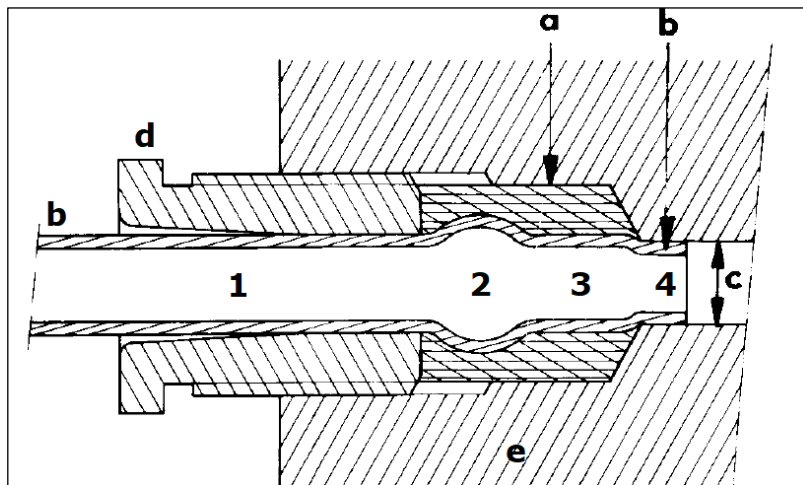
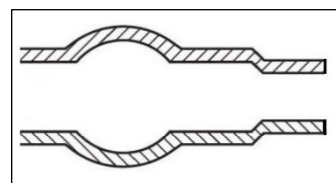
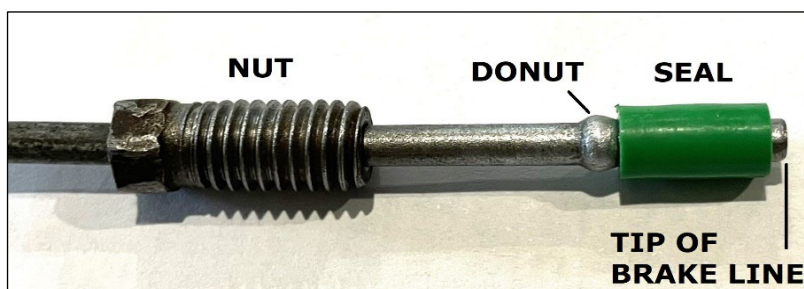
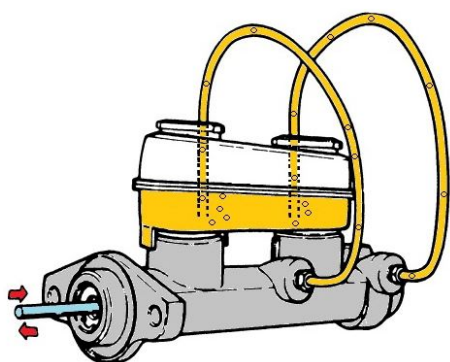

Fig. 2-6
Fig. 2-7
Fig. 2-8
Fig. 2-16 Bench bleeding arrangement
Fig. 2-6 shows the rubber brake line seal 'a', the metal brake line 'b', the fluid opening 'c', the nut 'd' and the fixture 'e'. The brake line diameters at 1 and 3 are identical. The tip of the brake line at 4 is slightly smaller in diameter than at 3, and the brake line shoulder, situated between the diameters '3' and '4', rests against the fixture at the entrance to the opening 'c'. The expanded section at 2 is known as a 'donut' and pushes the seal 'a' against the fixture 'e'. Fig. 2-7 is an enlargement of the end section of the brake line shown in Fig. 2-6. Fig. 2-8 shows a brake line end with a seal fitted, ready to be inserted.
- Fit the seal onto the end of the brake line to a position where about 1mm of the tip of the brake line is exposed as shown in Fig. 2-8.
- Gently insert the brake line and seal into the fixture, ensuring the tip 'b' enters the opening 'c'. You may feel the tip drop into the opening as you slightly move the brake line sideways while pushing it in. Continue gently pushing the brake line in by hand to where it will not enter any further. At this point, the brake line shoulder between diameters 3 and 4 should be contacting the entrance to opening 'c', as depicted in Fig. 2-6, and the seal is positioned correctly.
d. Construct the arrangement portrayed in Fig. 2-16, adapting as necessary. The writer used the cut-off end sections and nuts from two old brake line sections (cut to about 75mm in length, per Fig. 2-8) to connect to the fluid outlet ports.
- g. Using the wooden dowel, **slowly** push and **slowly** release the piston inside the open end of the master cylinder (the "pushing" end). In Fig. 2-16, the pushing end is on the left, with the wooden dowel is coloured blue. Ensure the dowel is gently pushed in until slight resistance is felt at the end of its travel. Don't push it any further than that. You will observe brake fluid and air being expelled from the master cylinder fluid outlet ports and back into the reservoir through the clear tubes.